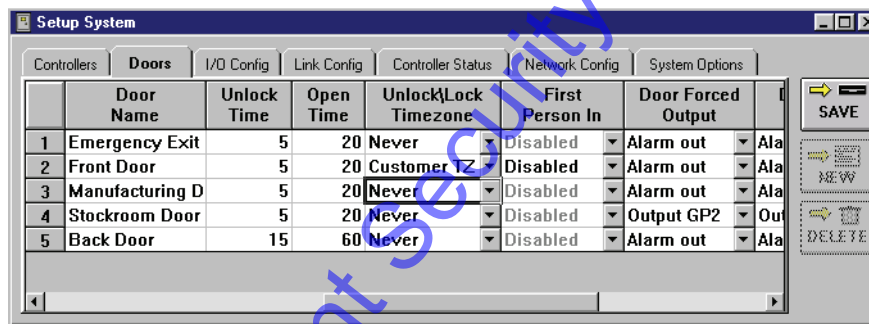

Figure 3-26: Set the Unlock/Lock Timezone
- The resulting window should look similar to Figure 3-26.
1. To set a door's FPI value, click on the Setup ⇒ System pull-down menu or click on the  tool bar button. Then click on the **Doors** tab (see Figure 3-26 on page 35 of this section). If the “First Person In” column does not appear in the window, use the scroll bar at the bottom of the window and scroll to the right until the column appears.